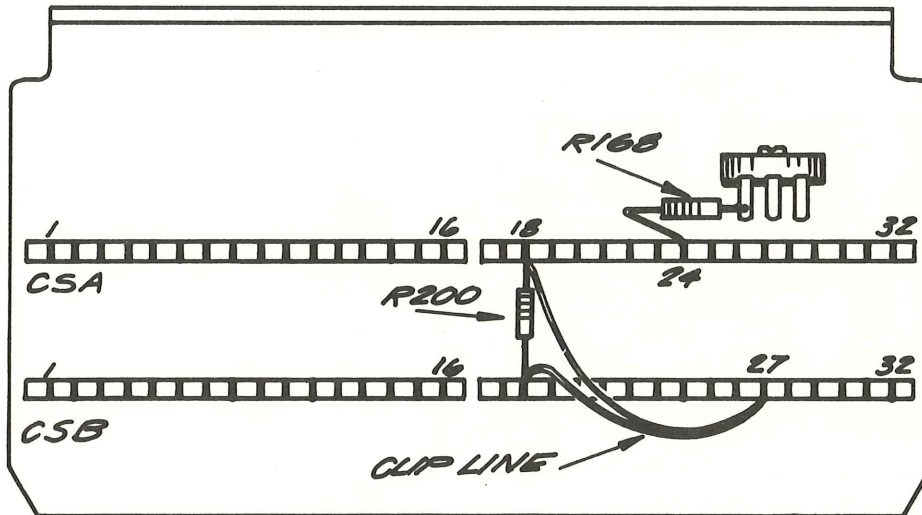

FIGURE 2
- () Replace R168, 33k with 27k 1/4W from kit. (Fig. 2)
- () Add R200, 261 Ω 1/8W 1% from kit across clipping line. (Fig. 2)